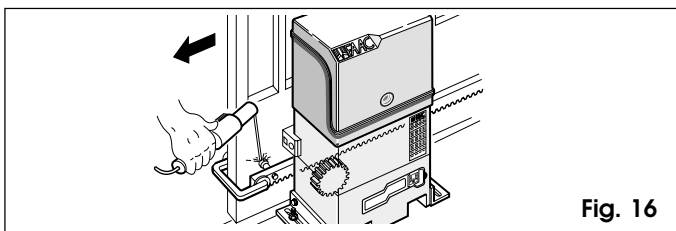

Fig. 16
- 3) Rest the first section of the rack level on the pinion gear, and weld the threaded pawl on the gate as shown in Fig. 16.